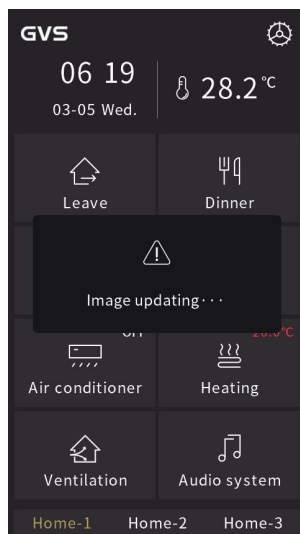
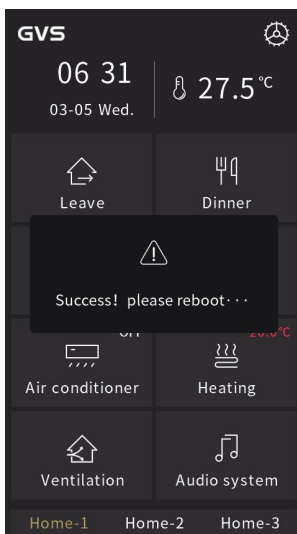
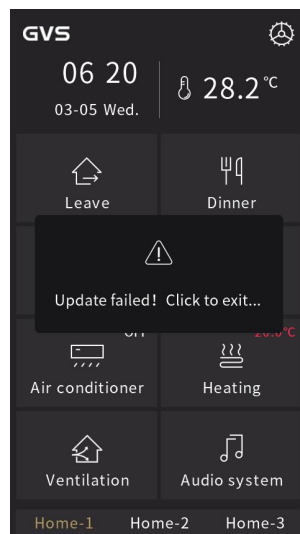
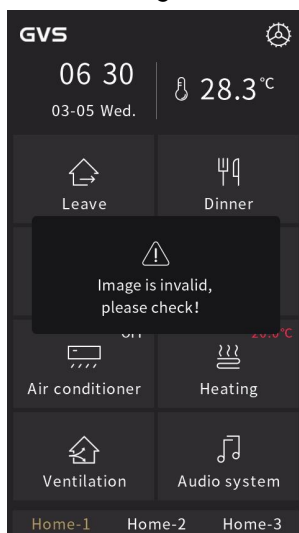

Fig.5.2
Fig.5.3
Fig.5.4
Fig.5.5
② Update pictures: when there is a folder named "Pageicon" in the Micro SD card, and there is a picture in accordance with valid name and format, then it will update and store (even if the picture is the same as the last saved).
3. Click "Confirm" to update picture; after upgrade, there will pop up a window of the result, if upgrade is successful, reboot the device manually to apply the new page icons to the system; if upgrade is failed, click any area outside the window to return to the page, as shown in Fig.5.2, Fig.5.3, Fig.5.4 and Fig.5.5.
Note: when upgrading, if the single picture is larger than the remaining storage space of the device (the total size of the device picture storage disc is about 15 MB), the remaining valid pictures shall be stopped updating, upgrade is failed as shown as Fig.5.4.